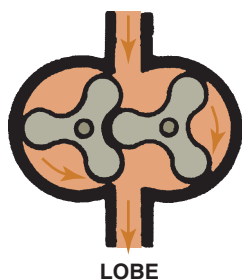

FIGURE 21-5
- **Roots type.** Named for Philander and Francis Roots, two brothers from Connersville, Indiana, the **roots supercharger** was patented in 1860 as a type of water pump to be used in mines. Later, it was used to move air and is used today on two-stroke-cycle Detroit diesel engines and other supercharged engines. The roots-type supercharger is called a **positive displacement** design, because all of the air that enters is forced through the unit. Examples of a roots-type supercharger include the GMC 6-71 (used originally on GMC diesel engines that had 6 cylinders each with 71 cubic inch). Eaton used the roots design for the supercharger on the 3800 V-6 GM engine. ● **SEE FIGURE 21-5.**